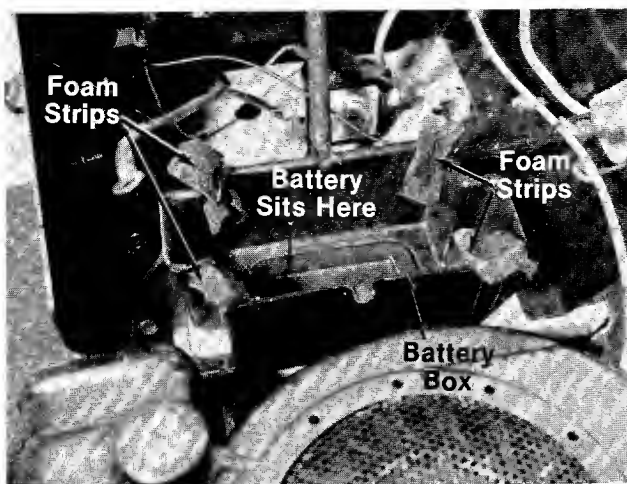

FIGURE 10.
- ← 9. Open the hood of the lawn tractor. Figure 10 shows the battery box in which the battery will be mounted.
- B. Peel the paper off the foam strips to expose the adhesive backing. Press foam strips firmly into the corners of the battery box. See figure 10.